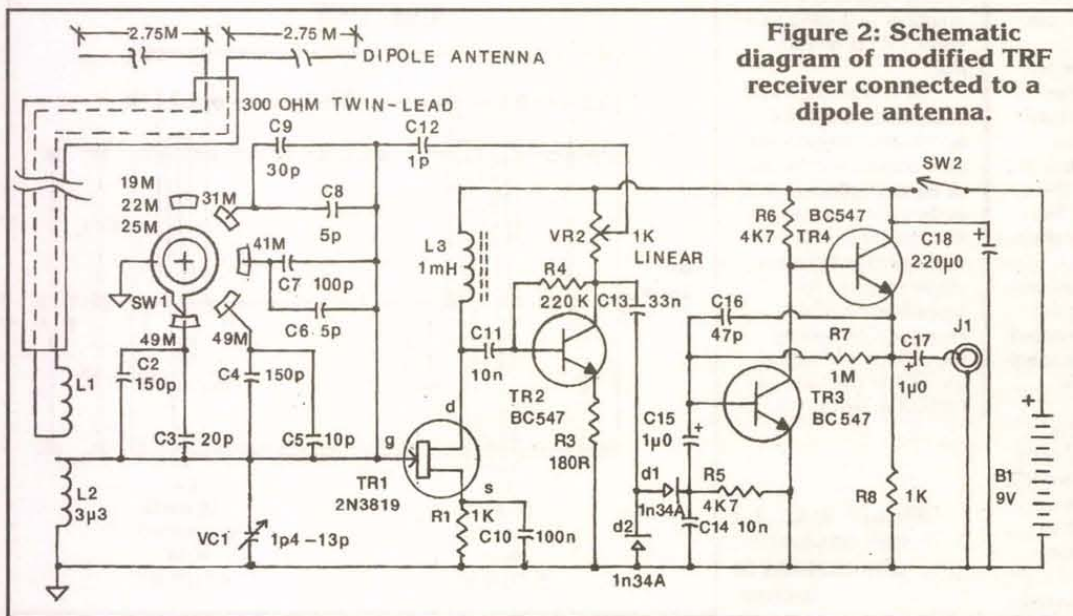

Figure 2: Schematic diagram of modified TRF receiver connected to a dipole antenna.
My modifications to Mr. Penfold's design, shown in Figure 2, include the following: (1) The receiver is connected to a dipole in place of a long-wire antenna. (2) The coupling of the antenna to the radio frequency (RF) tuning section is inductive as opposed to capacitive. (3) Positive
Another appeal of the modified TRF receiver is that, despite the sheer simplicity of the circuitry shown in Figure 2 relative to that of even a rudimentary superheterodyne receiver, long distance reception of a good quality is possible on a regular basis with this receiver.
## DESCRIPTION OF FIGURE 2 AND FIGURE 3
## RECEIVING — HOW IT WORKS IN FIGURE 2
of Figure 2 is cut to the length shown (equal to nine feet), then a fair amount of selectivity of reception at the antenna is achieved without overloading the receiver. That is, the dipole antenna of Figure 2 is resonant for electromagnetic radiation of a wavelength equal to 11 meters.
A voltage is generated at the break in the antenna of Figure 2 causing current to flow through the feed line and also through the antenna towards the ends of the antenna. Current travelling from the break to the end of a leg of the antenna is reflected back to the break with a 180-degree phase reversal as a result of the reflection at the end of the leg. Where the length of each leg is equal to  $1/4$  of the wavelength of the radiation acting on the antenna, then a time interval equal to  $1/2$  the period of the voltage induced by that radiation has elapsed when the reflected current arrives at the break.